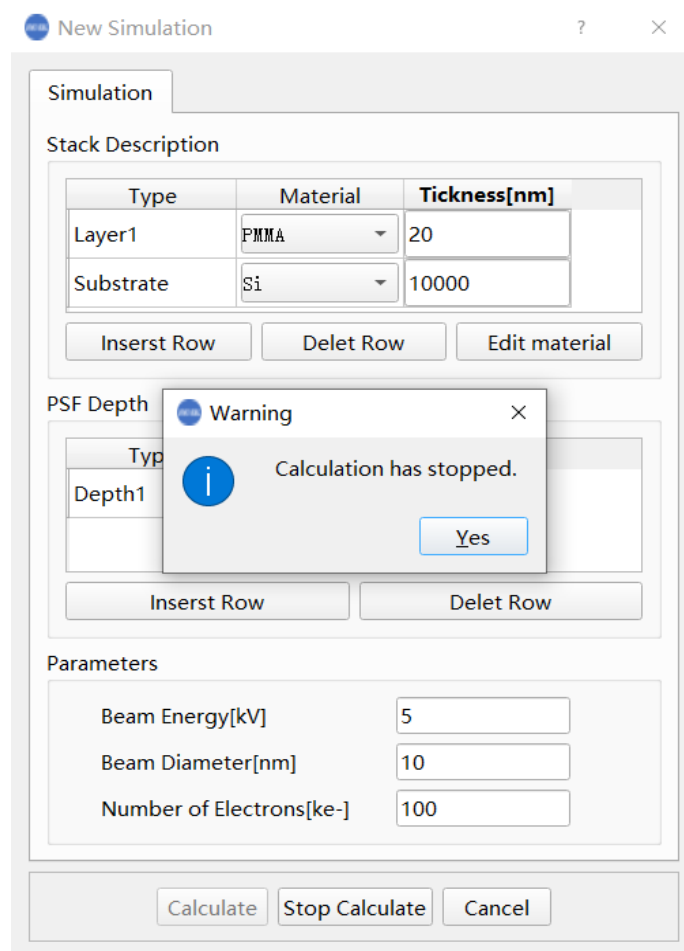

Figure 2.3.2 Terminate Monte Carlo calculation interface
(2) When the program is running, you can click "Stop Calculate" to terminate (Figure 2.3.2). You can re-enter the parameters and click "Calculate" again to start MC simulation.